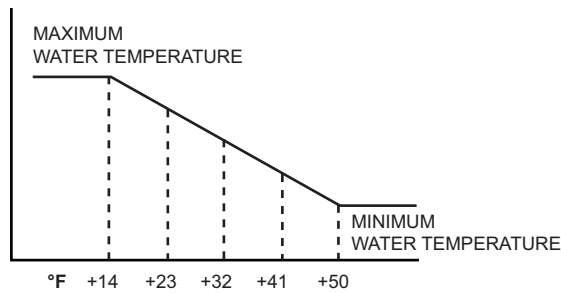

Fig. 5
- 8.6 On the electronic aquastat (marked "WATER TEMPERATURE"), select the **maximum** water temperature required (1-10) by the type of installation. Please see Table 6 below for the temperature obtained according to the knob position. The **minimum** water temperature is reset automatically by the outdoor sensor. Please see the variation graph in Fig 5.